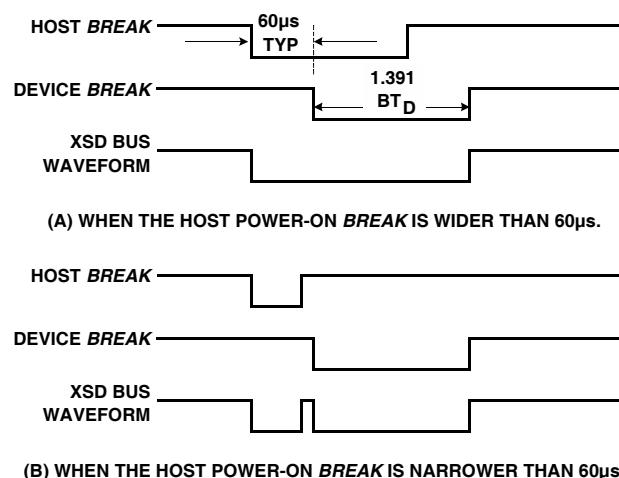

FIGURE 3. POWER-ON BREAK SIGNAL TO WAKE-UP THE ISL6296 FROM SLEEP MODE
Note that the ISL6296 will initiate the power-on sequence without waiting for the power-on 'break' signal to return to the high state. If the host sends an initial 'break' pulse wider than 60μs, the device-ready 'break' returned by the ISL6296 will likely be merged with the pulse sent by the host and, therefore, may not be detectable. Figure 3 illustrates the waveforms during the Power-on Reset. Figure 3 (A) represents the case when the power-on 'break' rising edge occurs after the device starts sending the 'break'. Figure 3 (B) represents the case when the power-on 'break' finishes before the device sends its 'break'. The device break signal is always 1.391 x of the device bit-time (BT, see XSD Bus Interface section for more details). Either case in Figure 3 will wake up the device successfully if the device is in the sleep mode.